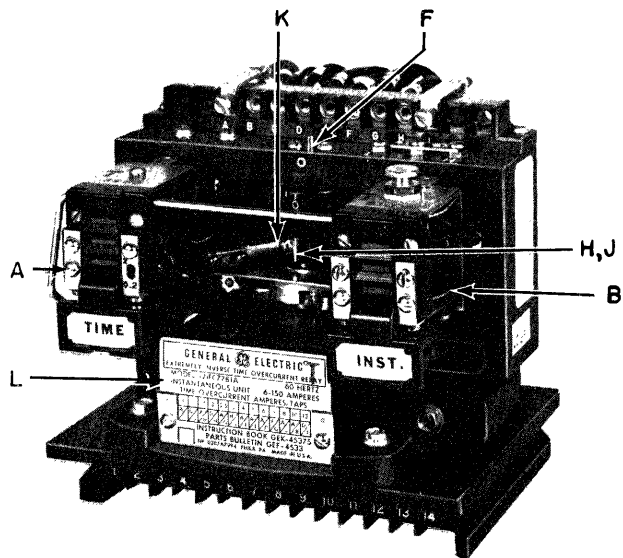

Fig. 2. Type IFC relay, front view
- A. Figure 2 on page 2 indicates that the reference letter for the Seal-in Unit is 'A'.